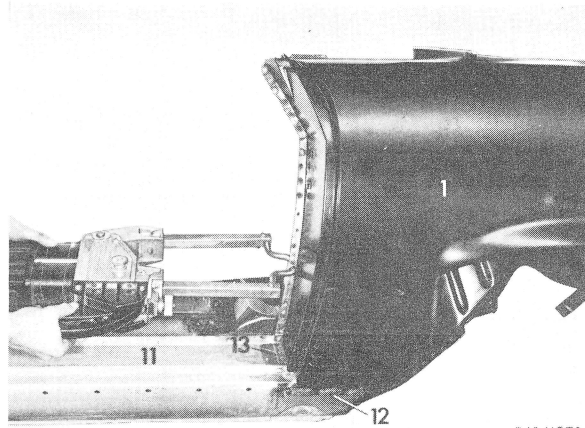

Fig. 4
24 Spot weld rear fender (1) to box column (4) (Fig. 4 and 5).
32 Connect rear fender (1) to side member (11) by string welding (12) (Fig. 4).
33 Connect flange (13) to side member (11) by plug welding (Fig. 4).
- a) Side member (11) on entrance (Fig. 4),